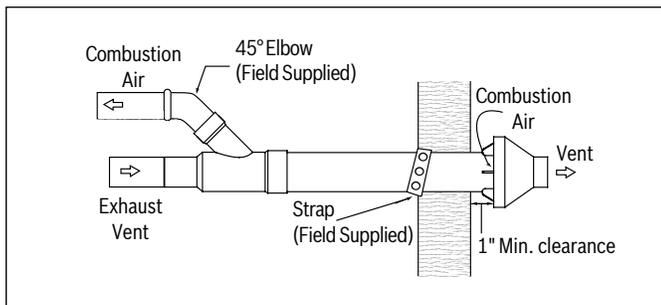

Figure 35
5. Secure the assembly to the structure as shown in Figure 35 using field supplied metal strapping or equivalent support material.